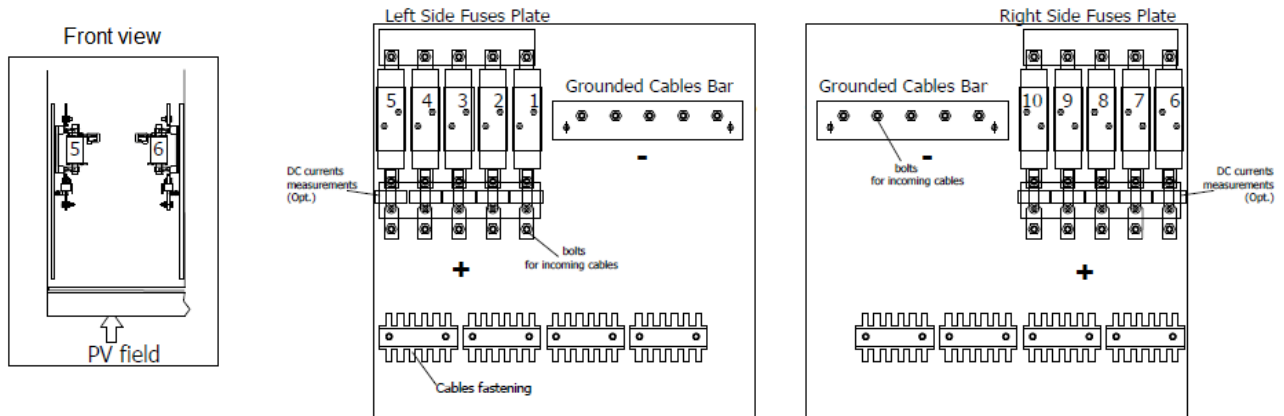
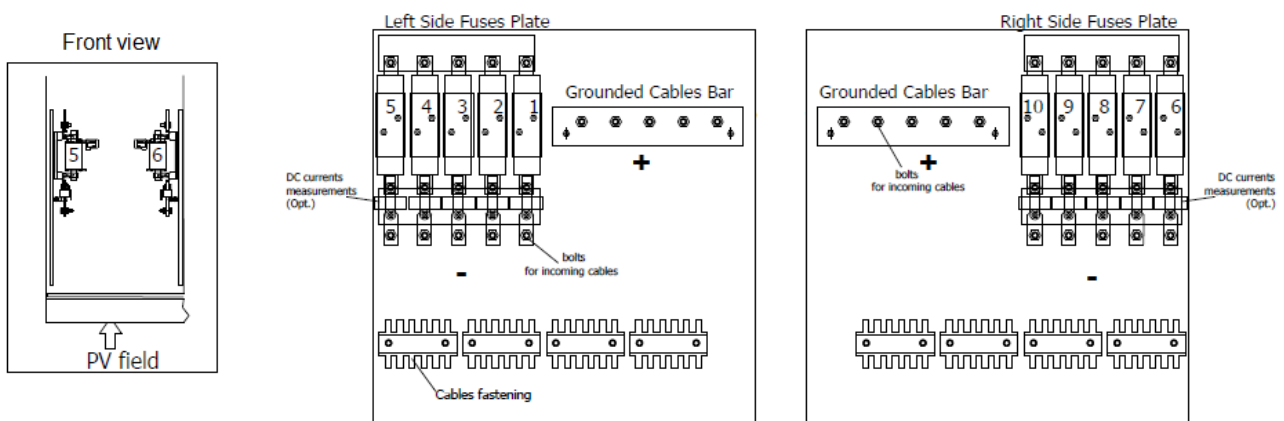

Figure 27: Configuration 2 of terminal board X2, PV field with negative grounded pole, 10 fuses on positive pole
Figure 28: Configuration 3 of terminal board X2, PV field with positive grounded pole, 10 fuses on negative pole
2. **Configuration 2 or 3** PV field with grounded positive or negative pole, 10 fuses on ungrounded pole, 1 cable per fuse (Figure 27 and Figure 28)